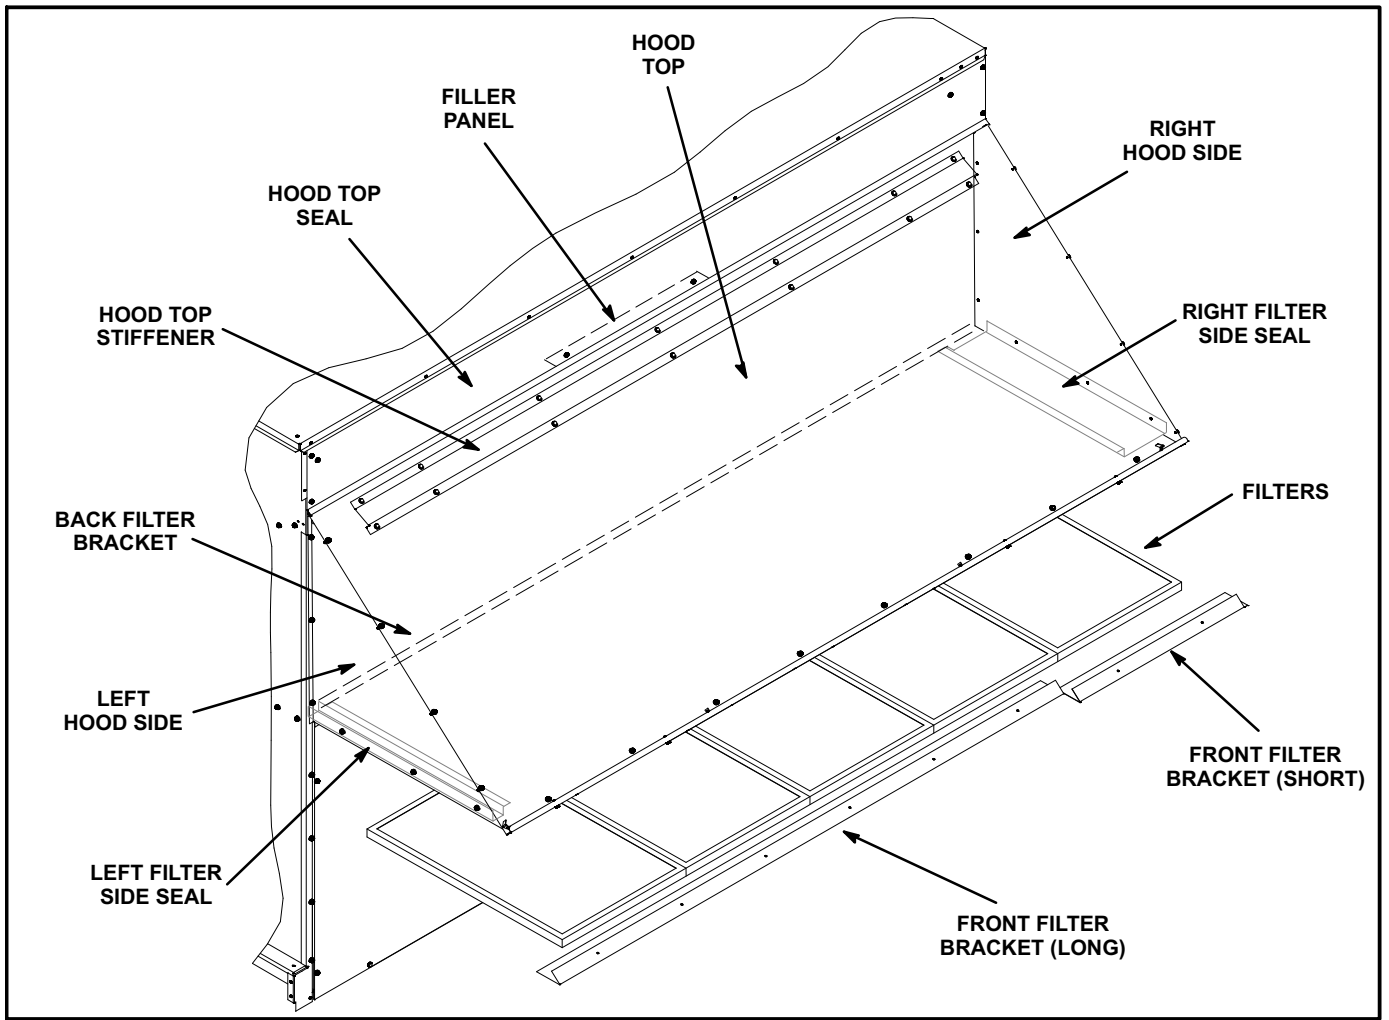

FIGURE 5
3- Slide hood top seal under unit cabinet top; remove and retain screws securing top as needed. Secure top seal using retained screws. See figure 5 and 6.
- 9- Secure the longer front filter bracket flush with the left end of the hood top. Install all but last filter. See figures 5 and 8.